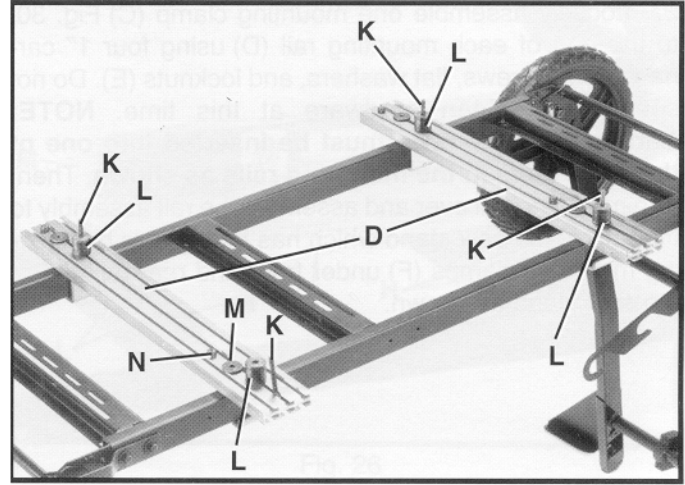
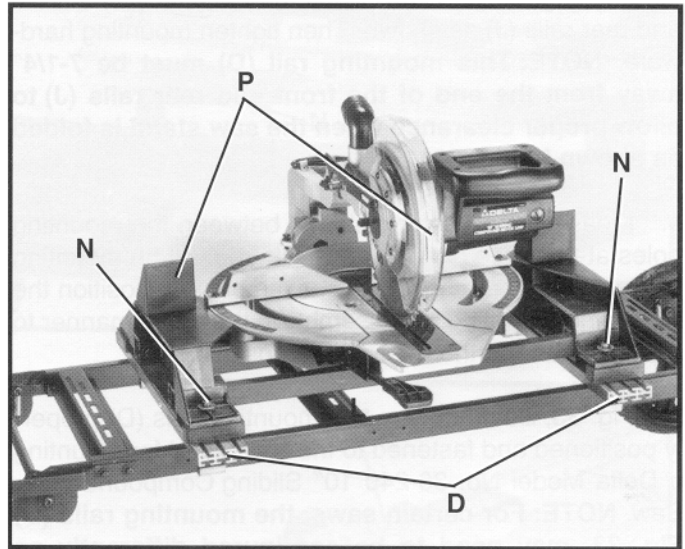

Fig. 35
Fig. 36
6. Regardless of the position of the mounting rails (D) Fig. 35, place one 2-1/4", carriage head screw (K) into each end of the mounting rails (D) as shown. **NOTE: Carriage head screws (K) must be inserted into one of the three slots in the mounting rails (D) as shown. Also, spacers (L) must be placed onto the carriage screws (K) as shown if the saw you are using is notched out for mounting the saw to a saw horse.**
7. Align the mounting holes in the miter saw base with carriage head screws (K) Fig. 35, and gently lower miter saw (P) Fig. 36, onto the mounting rails (D) so the carriage screws protrude up through mounting holes. Then center the saw base on the mounting rails (D) Fig. 35, and fasten saw to stand using the four flat washers (M) and lock nuts (N) Figs. 35 and 36. Tighten all mounting hardware at this time.